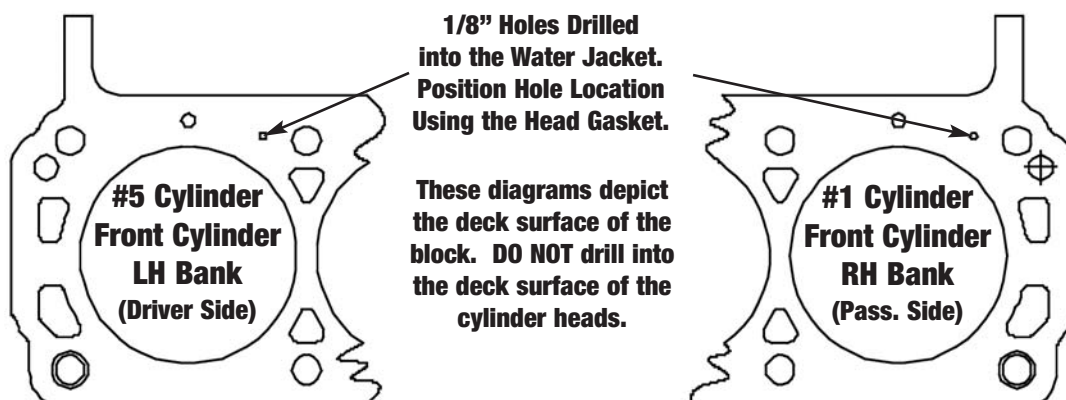

Figure 2 - Steam Hole Locations for Early 289 & 302 Engine Blocks
1. Check the upper deck to see if you have an early or late model block (not needed with 351-W): a) Late model 289-302 blocks have the water passages located next to the head bolt location on the deck of the block (This block **will not** require drilling). b) Early 289-302 blocks will have the water passages located directly over the cylinder upper deck area and will require drilling 1/8" steam holes in the block as seen in Figure 2.